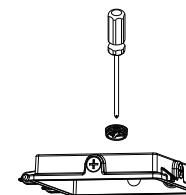

FIGURE 2-2
2. Loosen the 3/4 plug on the driver box cover by screwdriver (Figure 2-2)